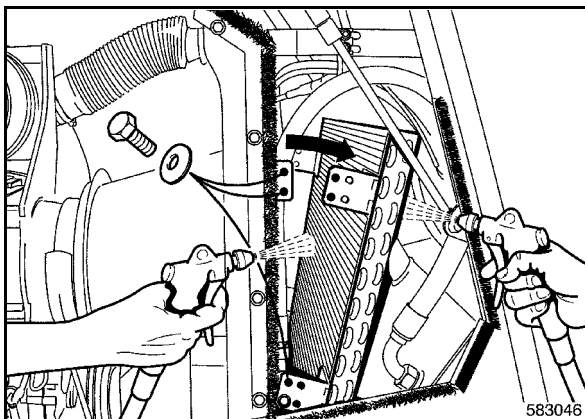

Fig. 145
- Unscrew the condenser fastening screws (Fig. 145) and fold the condenser forward.